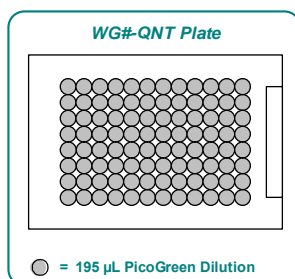

Figure 14 QNT Plate
9. Transfer 195 μl PicoGreen dilution to all 96 wells of the QNT plate (Figure 14).